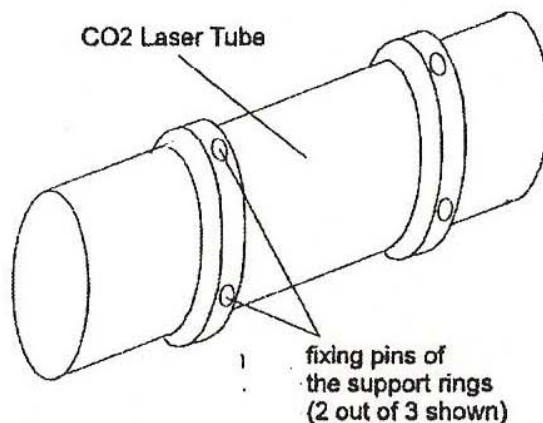

Figure 3. LASER TUBE, WITH
6. While inserting the tube into the bench, do not allow the fixing pins of the supporting rings to fall out. These pins are the contact points between the laser tube and the securing brackets, and one of them (for each ring) contains a rubber O-ring (see Figure 3).